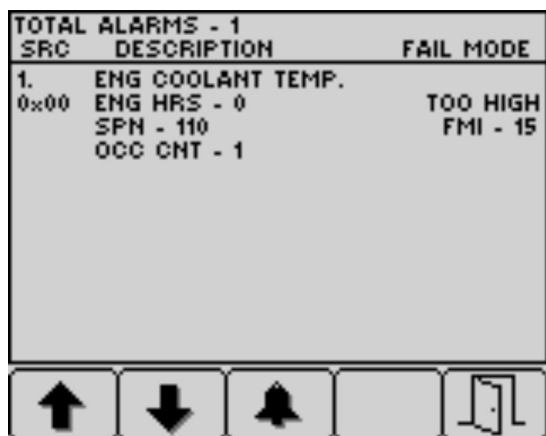

Figure 40
4. Press button 5 to exit the active fault list and return to the home screen (Figure 40).
5. Press button 5 to exit the active fault list and return to the home screen; refer to Figure 40 in Engine Advisories Messages (page 35).